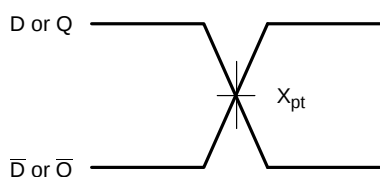

Figure 11. Differential Input/Output Crosspoint
**Section Note** – This section explains concepts that only apply for differential inputs and/or outputs. Differential inputs and outputs have true and inverted pins, and are often referred to as “complimentary” inputs and outputs. An example of a differential input is a true data input (D), and an inverted data input ( $\bar{D}$ ).
**Differential Crosspoint** – Differential crosspoints are used as a measurement point for differential input and differential output signals. A differential crosspoint ( $X_{pt}$ ) is located where the true and inverted inputs or outputs intersect as shown in Figure 11.